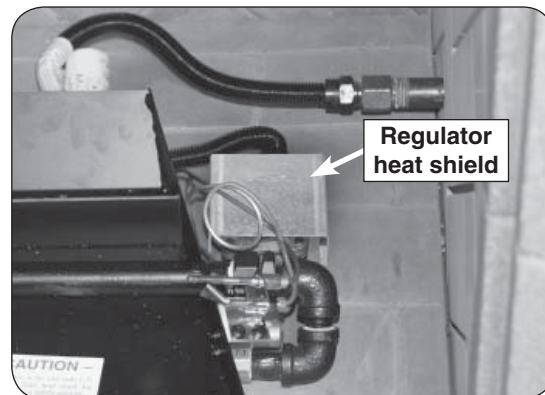

Fig. 14-2 Place regulator heat shield
5. Place regulator heat shield firmly over the regulator (see Fig. 14-2).